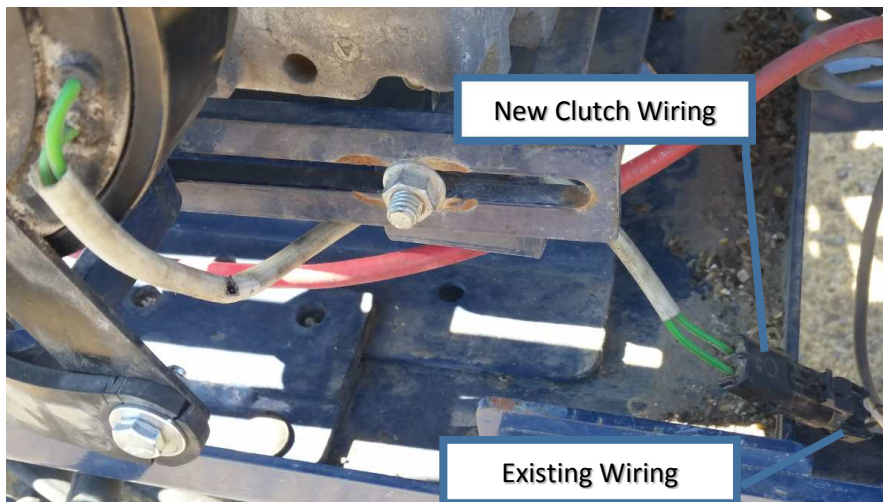

Figure 6
- Connect the clutch wire directly to the wire that was disconnected in Step 3 as shown in Figure 6